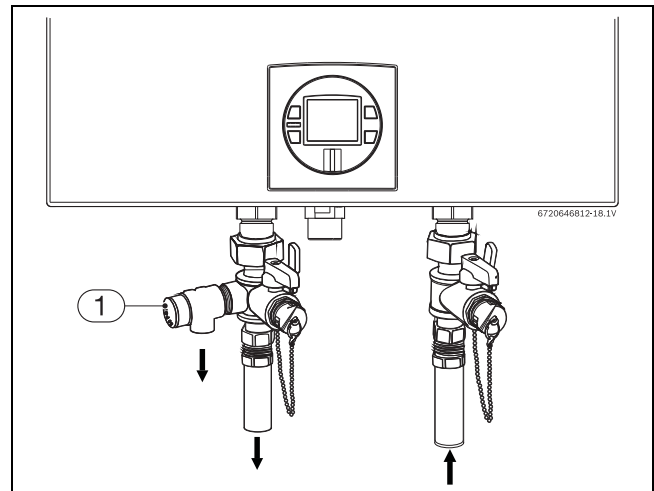

Fig. 36 Plumbing Connections (with shutoff valves) and Pressure Relief Valve
- ▶ Full port shutoff valves should be installed on both the cold water supply and hot water outlet lines to facilitate servicing the heater (see fig. 36).
A listed pressure relief valve must be installed at the time of installation. No valve is to be placed between the PRV and the heater. No reducing coupling or other restriction may be installed in the discharge line. The discharge line must be a minimum of 4" above a drain and installed such that it allows complete drainage of both the PRV and the line. The discharge line must be placed where it will not cause any damage. The location of the PRV must be readily accessible for servicing or replacement, and be mounted as close to the water heater as possible. See fig. 36. To install the PRV, a suitable fitting connected to an extension on a "T" fitting can be sweated to the hot water line. Support all piping.